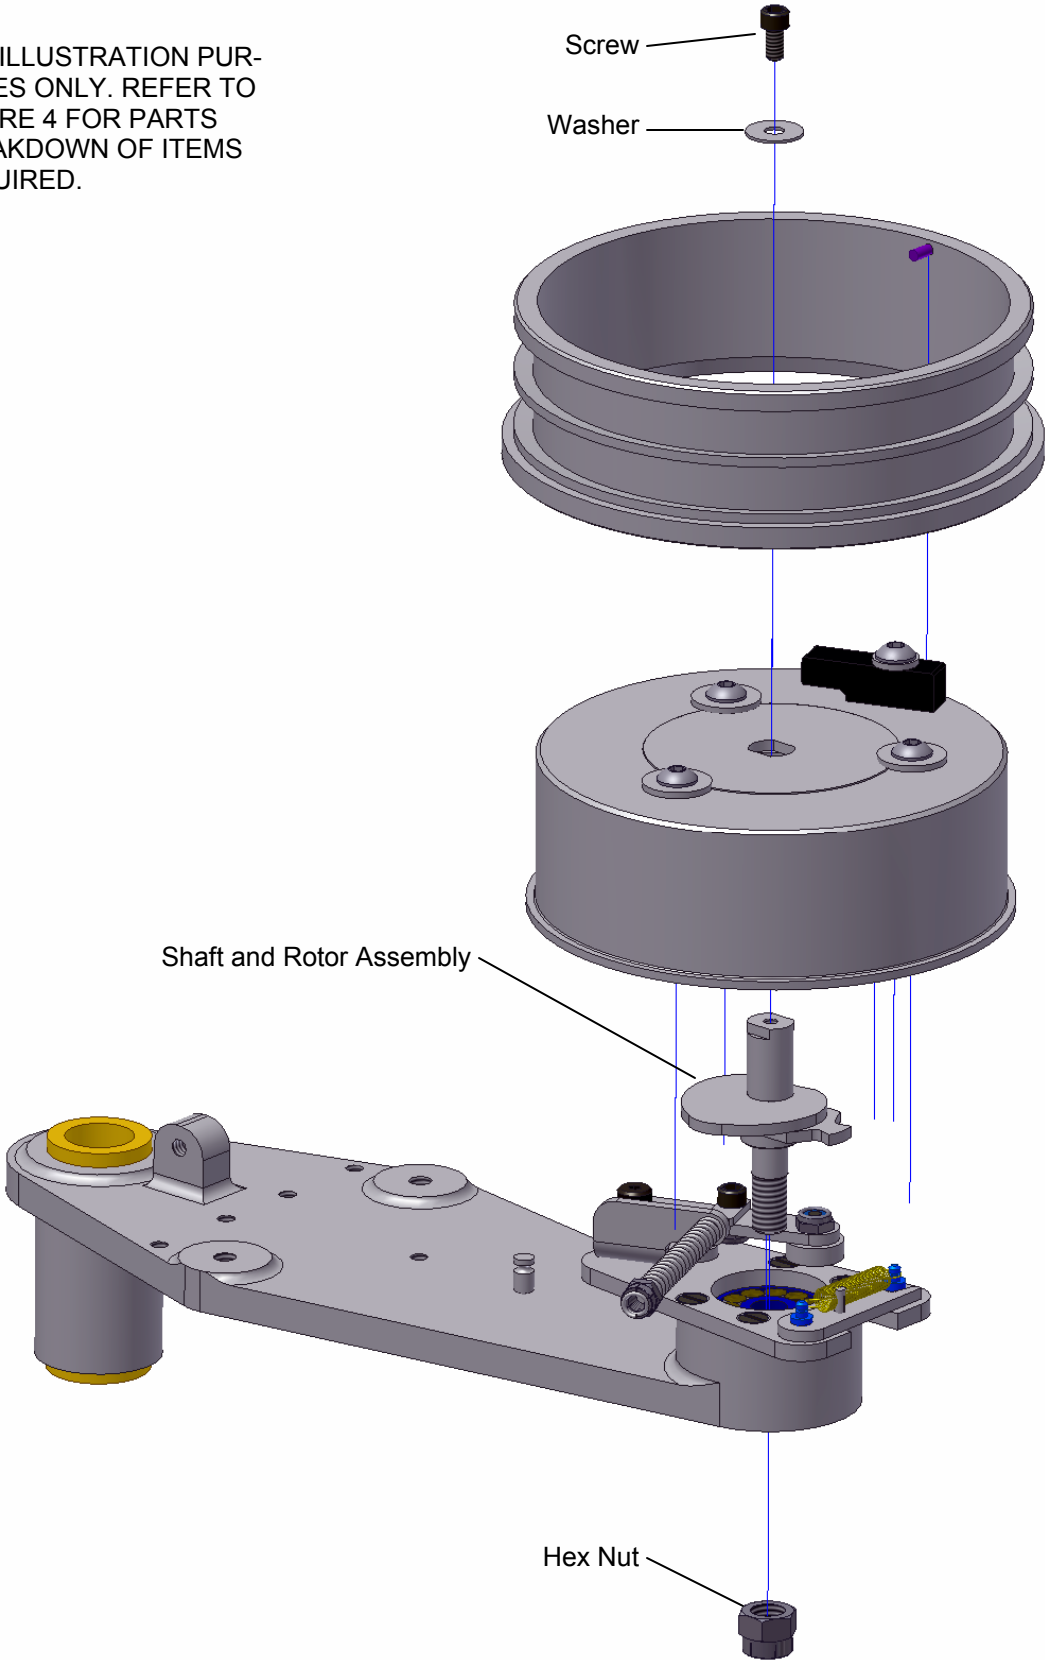

FIGURE 2
3. Check for loose hex nut (see Figure 2).
**INSTRUCTIONS FOR MOUNTING NEW DIE WHEEL ASSEMBLY AND DIE WHEEL SHAFT AND ROTOR ASSEMBLY (Figure 2)**